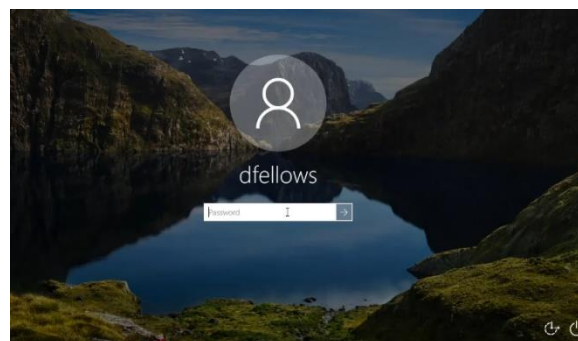

FIGURE 92: TESTOUT CORP. (2020, JANUARY 14). TESTOUT PC PRO (SECTION 10.3.4). RETRIEVED FROM [HTTP://WWW.TESTOUT.COM](http://www.testout.com)
11.3.14. (See Fig. 92) After Windows is fully done loading and installing, sign in with the credentials you chose in step 11.3.11.